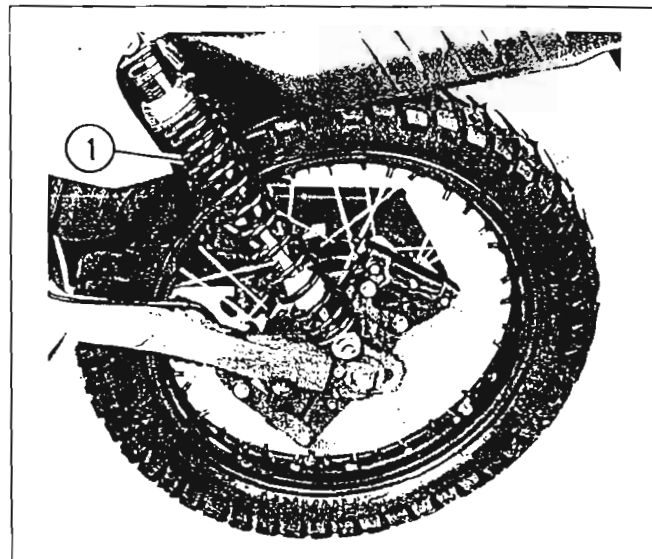

Figure 2-12. Rear Shock Absorber
2. See Figure 2-12. Check for fluid leakage on both rear shock absorbers (1). Refer to *Service Manual* for repair procedure if leakage is present.